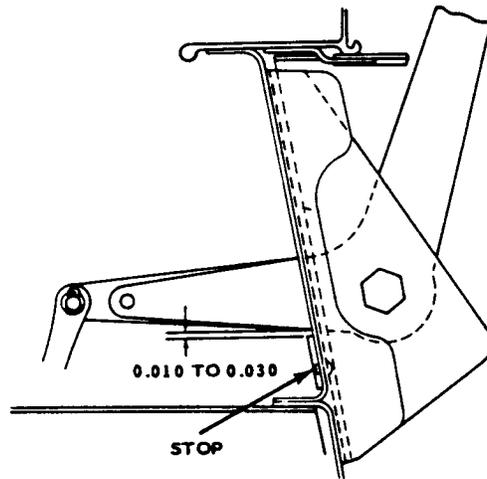

Figure 73-3. Adjustment of Engine Controls
**ADJUSTMENT OF THROTTLE AND MIXTURE CONTROLS** (figure 73-3)